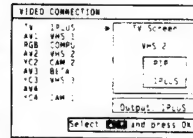

Fig. 41.
- 1 Select Video Connection with \triangle or ∇ and press OK. The VIDEO CONNECTION menu appears. (See Fig. 41)